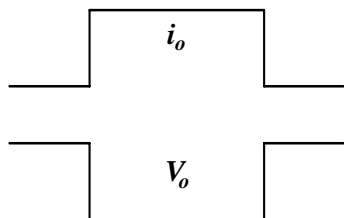
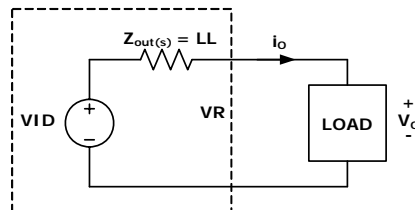

FIGURE 11. DESIRED LOAD TRANSIENT RESPONSE WAVEFORMS
FIGURE 17. VOLTAGE REGULATOR EQUIVALENT CIRCUIT
Assuming the compensator design is correct, Figure 11 shows the expected load transient response waveforms if C_n is correctly selected. When the load current I_{core} has a square change, the output voltage V_{core} also has a square response.
Figure 11 shows the desired load transient response waveforms. Figure 17 shows the equivalent circuit of a voltage regulator (VR) with the droop function. A VR is